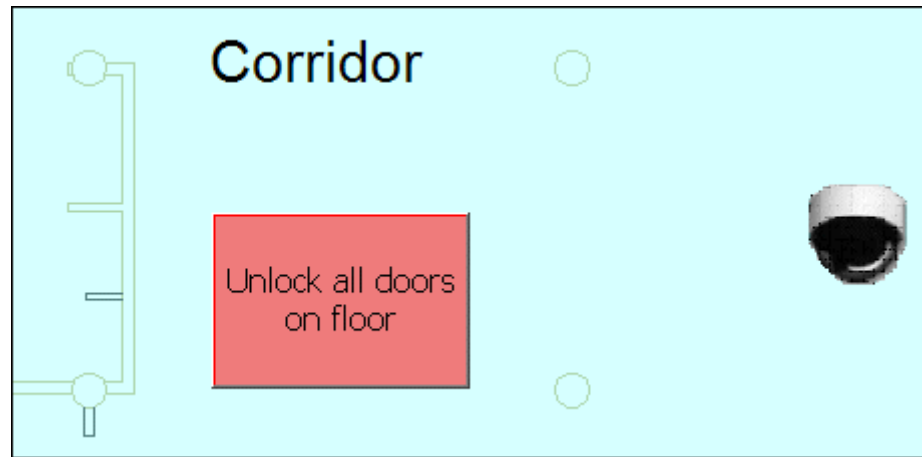

Fig. 23 Example of graphic command button on a map
7. Close the window to save your changes. (See Fig. 23.)